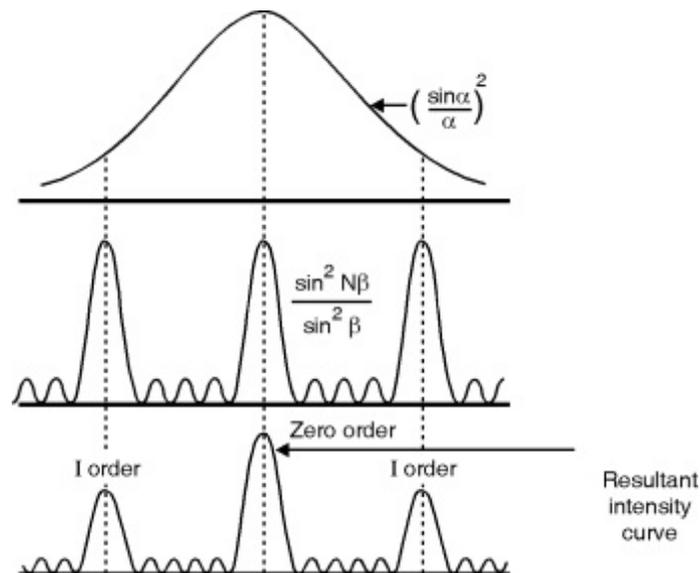

Fig. 3.7.2
- Thus every slit gives rise to a diffracted beam whose intensity depends upon the slit width and these diffracted beams then interfere to produce the final diffraction pattern. This is shown in Fig. 3.7.2.